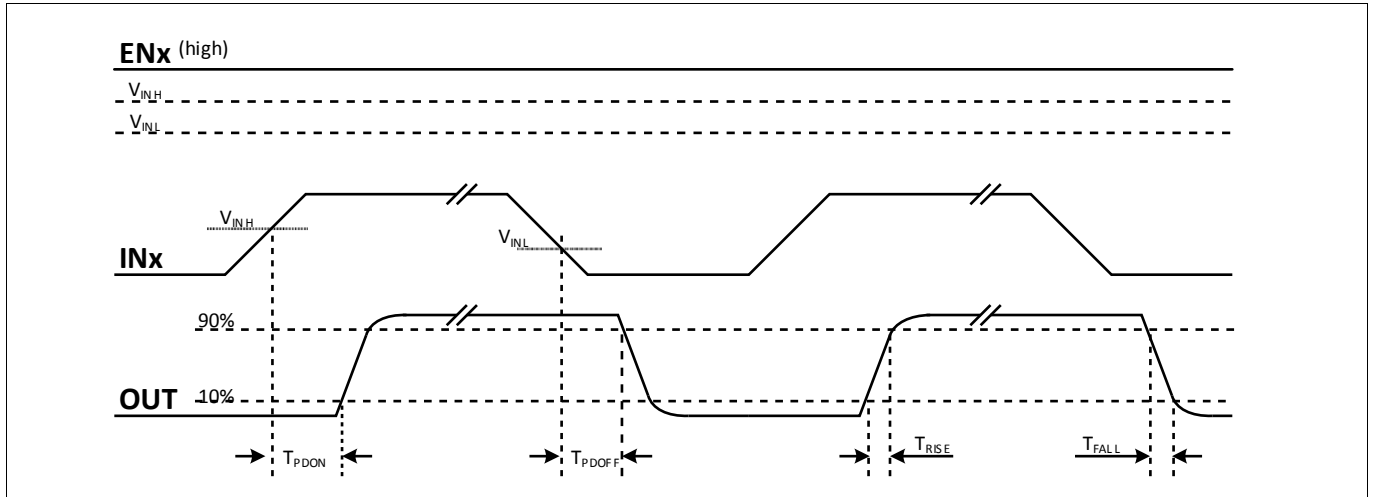
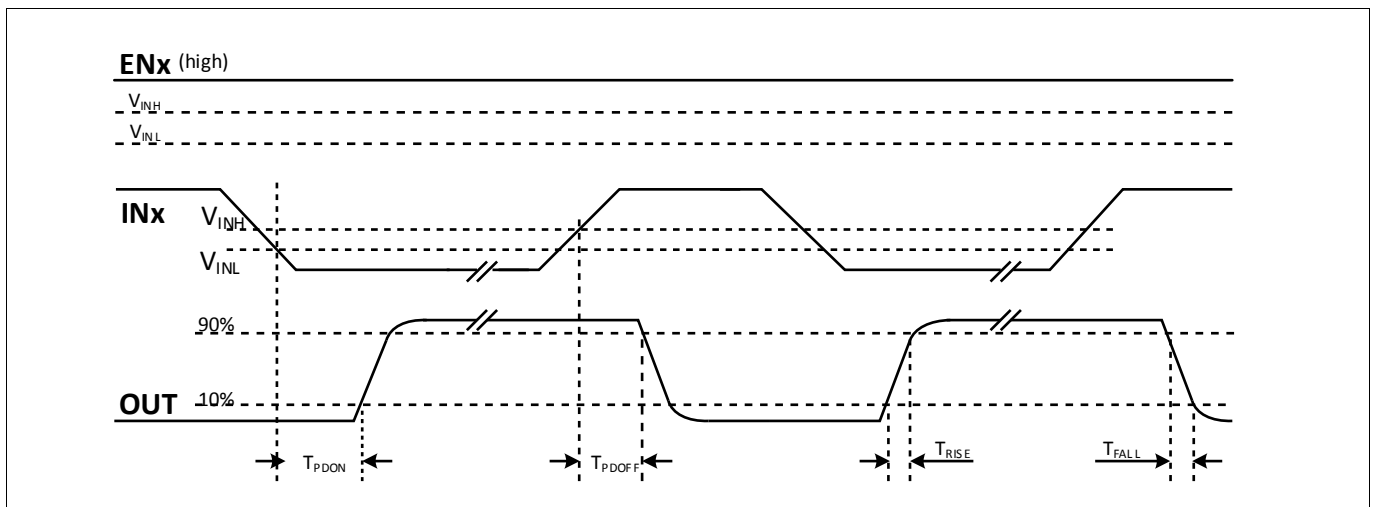
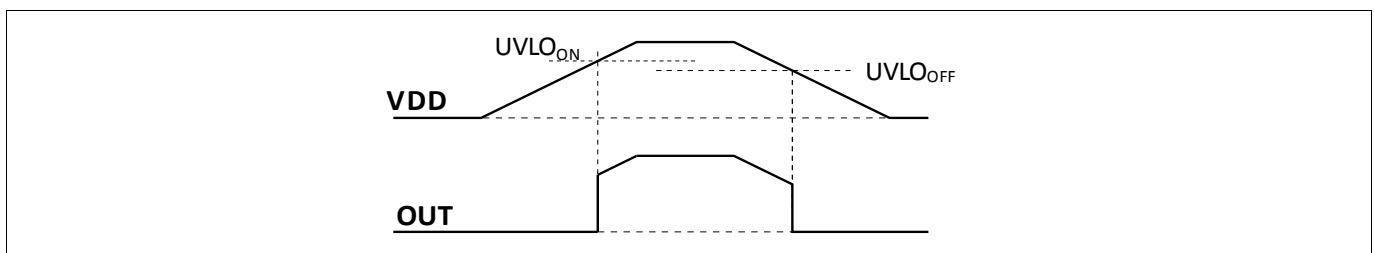
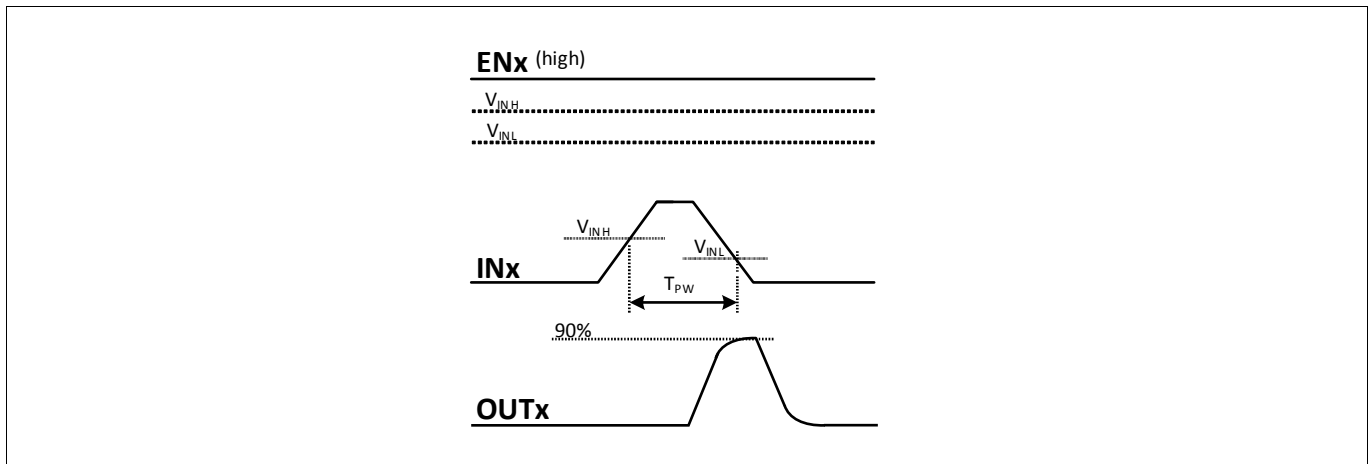

Figure 6 Propagation delay, rise and fall time, non-inverted
Figure 7 Propagation delay, rise and fall Time, inverted
Figure 8 UVLO behaviour, input ENx and INx drives OUTx normally high
Figure 9 TPW, minimum input pulse width that changes output state
**Table 13 Static Output Characteristics (see Figure 7)**
**Table 14 Dynamic Characteristics (see Figure 6, Figure 7, Figure 8 and Figure 9)**
Figure 6 shows the definition of rise, fall and delay times for the inputs of the non-inverting / direct version (with Enable pin high or open).
Figure 7 shows the definition of rise, fall and delay times for the inputs of the inverting version (with enable pins high or open).
Figure 8 illustrates the undervoltage lockout function.
Figure 9 illustrates the minimum input pulse width that changes output state.